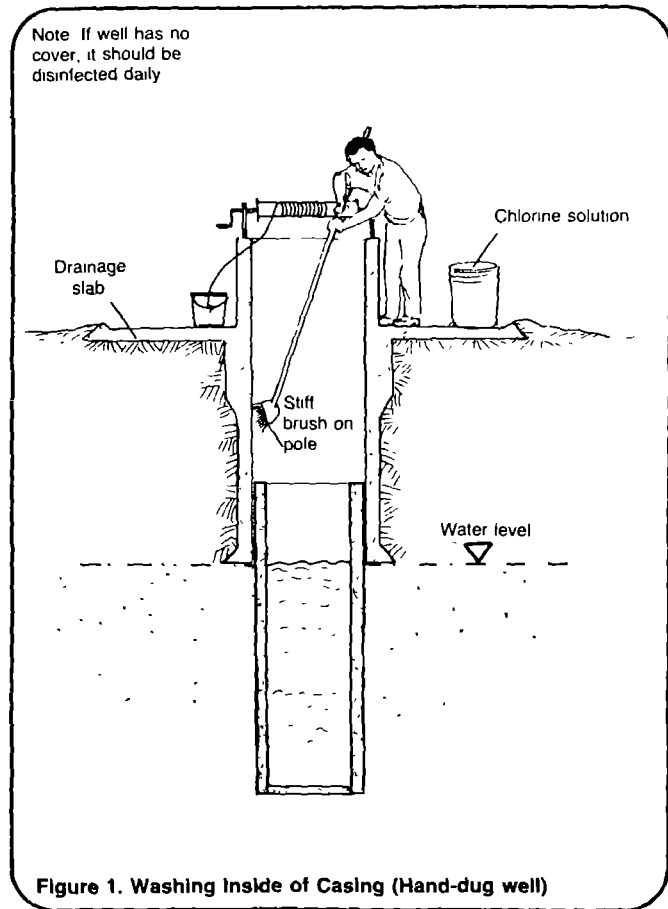

Figure 1. Washing Inside of Casing (Hand-dug well)
4. Wash the inside surface of the well casing with a clean, stiff broom and the 10 liters of chlorine solution. See Figure 1.